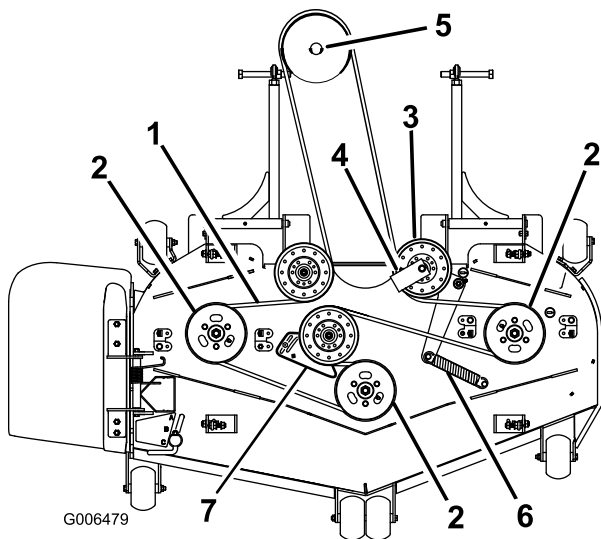
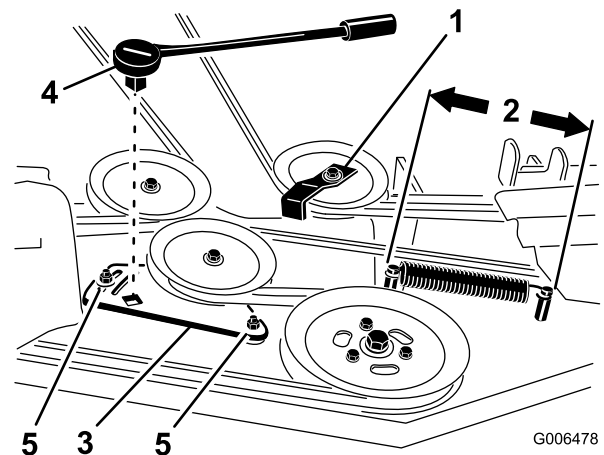

Figure 64
Figure 66
4. Loosen the idler plate bolts holding the idler plate (Figure 66).
6. Remove the belt guide on the spring loaded idler pulley shown in Figure 64 and Figure 66.
8. Install the new belt around the mower pulleys and the gearbox pulley under the engine (Figure 64).
- Measure the spring length (Figure 66). If the spring length is between 10 and 10-1/4 inches (25.4 and 26.0 cm), from post to post, no adjustment is needed.
- Loosen the bolts holding the idler plate (Figure 66).
- Insert a ratchet or breaker bar into the square hole in the idler plate to adjust the tension (Figure 66).
- Rotate the ratchet or breaker bar to move the idler plate until the idler spring is between 10 and 10-1/4 inches (25.4 and 26.0 cm) from post to post as shown in Figure 66.
- While holding the belt tension and spring length, tighten the idler plate bolts that secure the idler plate (Figure 66).
- Install the belt guide on the spring loaded idler at a 45 degree angle as shown in Figure 64 and Figure 66. Torque the bolt to 27 to 33 ft-lb (37 to 45 N-m).
- Install the idler spring to the two posts (Figure 64 and Figure 66).